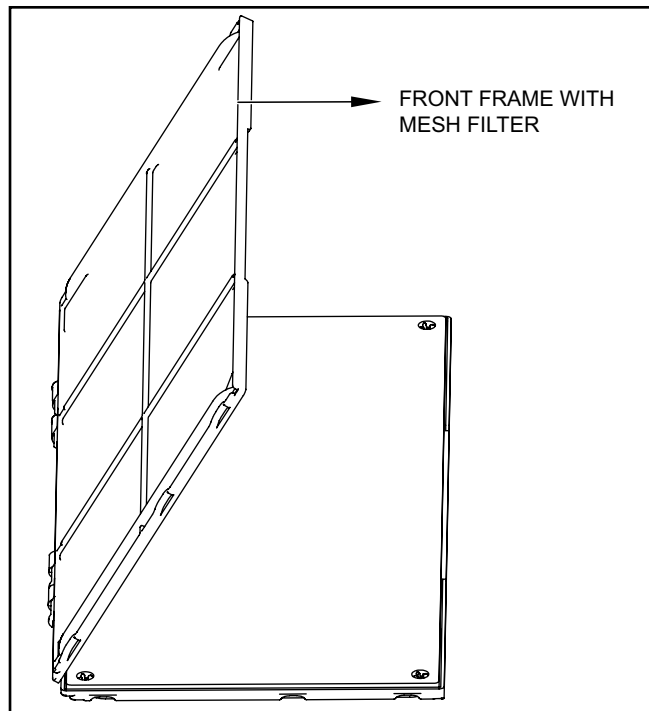

Figure 419
3. If you already have a carbon filter installed remove the dirty filter by laying the filter down and swinging open the front frame as shown in Figure 419.